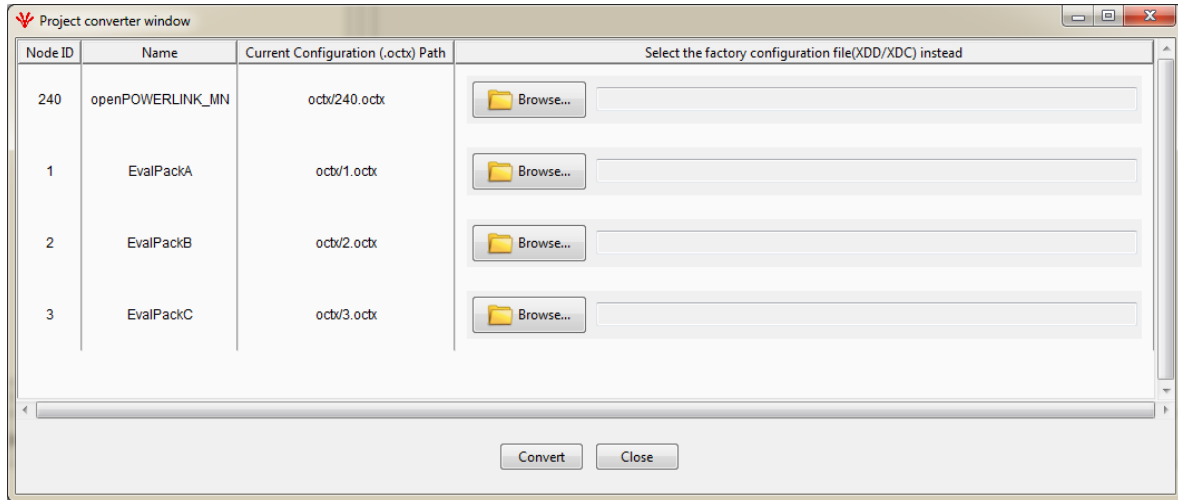

Figure 4: Project converter window
- 1) Once the old project is opened from openCONFIGURATOR 1.4.0, a 'Project converter window' will open as shown in Figure 4: Project converter window.